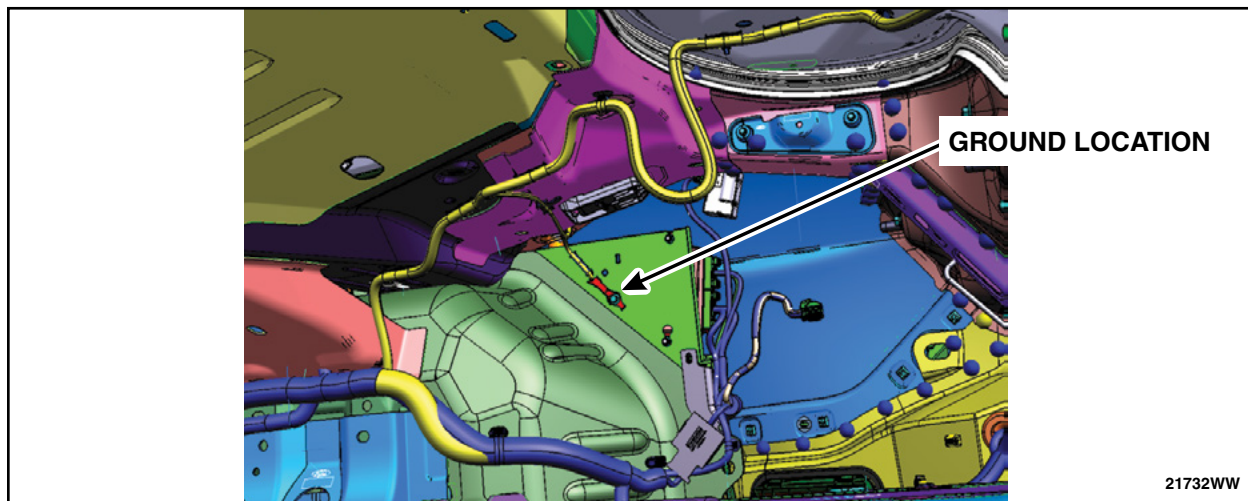

FIGURE 41
55. Remove the existing ground on this section of the harness from the body of the vehicle. Reinstall the ground on the *new* section of harness to the body of the vehicle. See Figure 41.